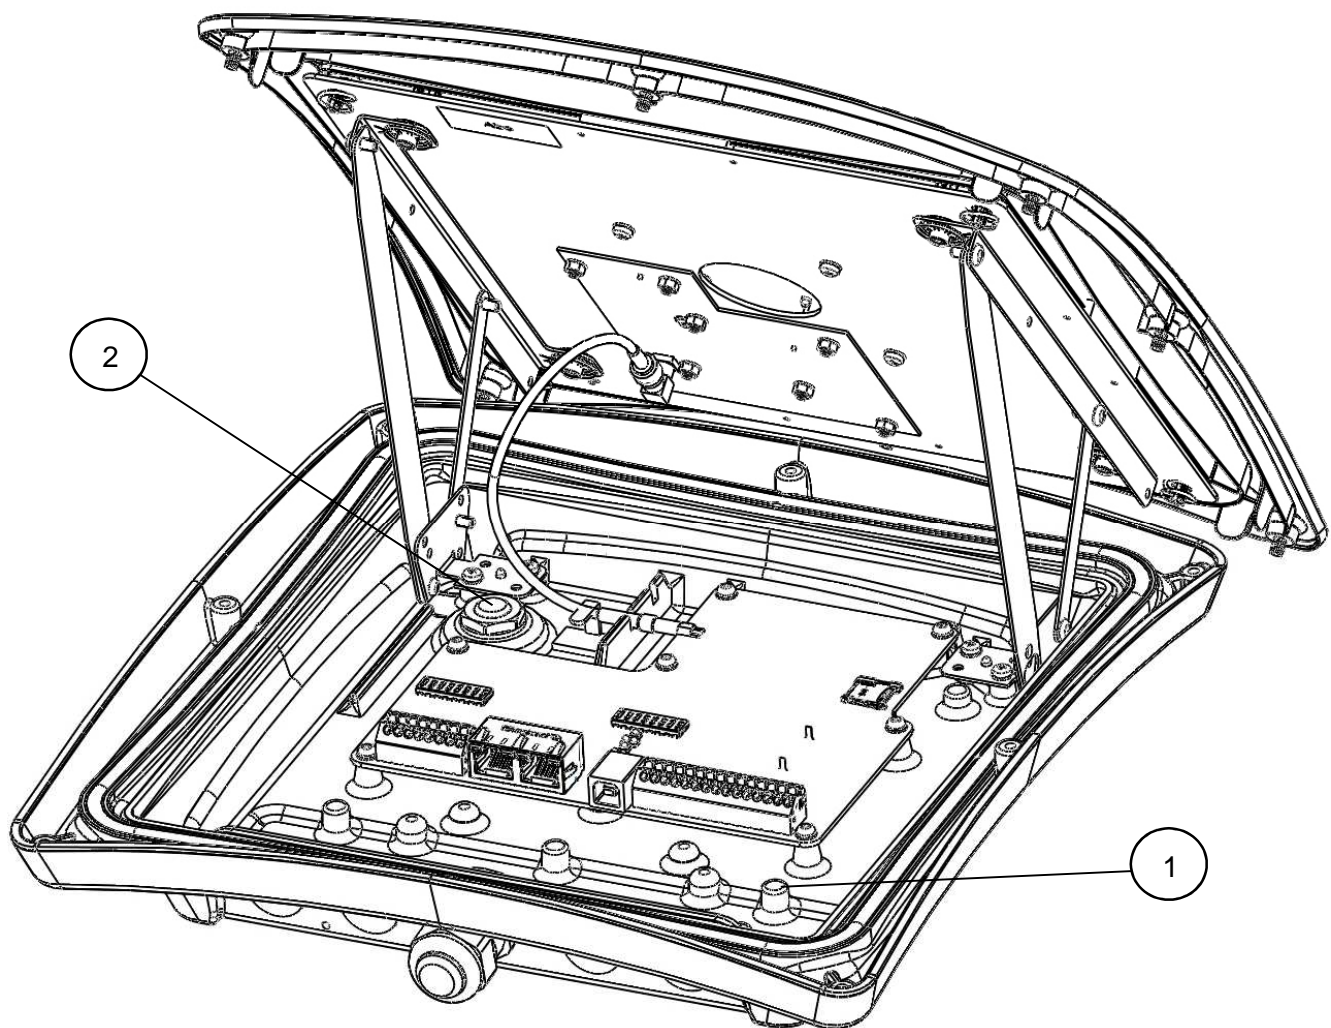

Figure 6 XT-1 overview (Pos. 1 is ground screw connection, Pos.2 is ventilating membrane)
2. Open XT-1 lid by loosening the 8 screws on the front, and slide the lid open (see Figure 6 for reader with lid in open position).
5. Connect the shielding of the power cable to the chassis grounding point using the grounding screw (Figure 6, Pos. 1).
Never remove or use the ventilating membrane (Figure 6, Pos. 2) on the back of the XT-1 for cable connections.